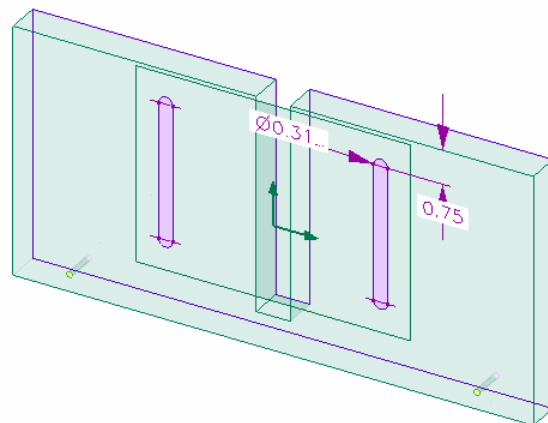

Figure 23. slots ready to be projected.
48. Figure 23 shows what the fence should look like at this point.